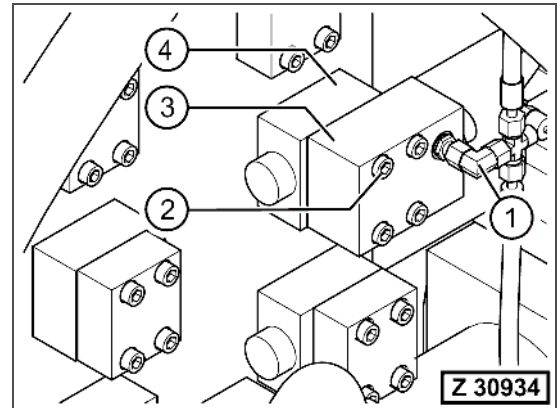

Fig. 3-352
2. Install SRV-block (Fig. 3-352, Pos. 3) together with the ACV block (Fig. 3-352, Pos. 4) and assemble the four mounting bolts (Fig. 3-352, Pos. 2).
3. Reconnect the leak oil hoses (Fig. 3-352, Pos. 1) at the SRV-block.
4. Note the mounting direction of the ACV and SRV cartridge. The ACV cartridges (Fig. 3-351, Pos. 3) / (Fig. 3-352, Pos. 4) always faces inward and the SRV cartridges (Fig. 3-352, Pos. 3) always faces Bleed air from the hydraulic system, refer to the OPERATION & MAINTENANCE MANUAL, chapter 4, section "BLEEDING THE HYDRAULIC SYSTEM".